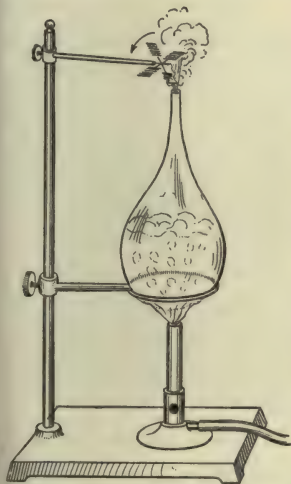

FIG. 187. — Steam as a source of power.
**Steam as a working power.** — If a delicate vane is held at an opening from which steam issues, the pressure of the steam will cause rotation of the vane (Fig. 187), and if the vane is